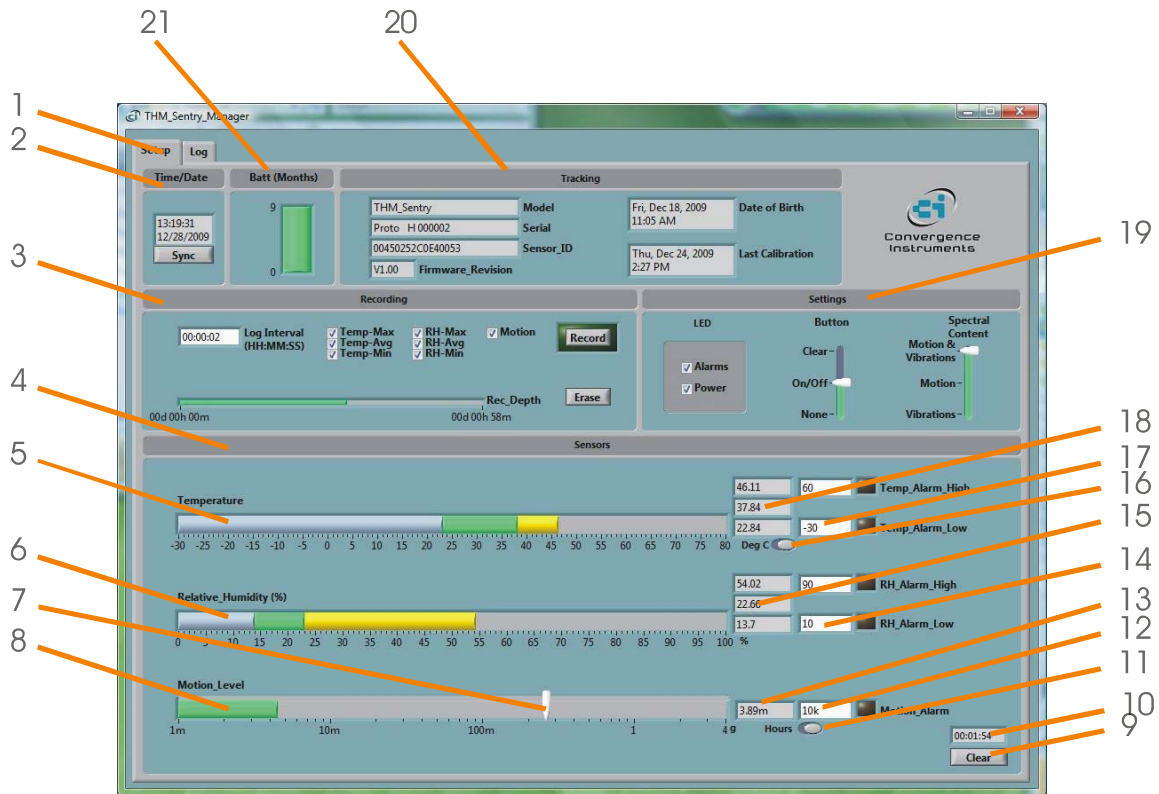

Figure 3: THM\_Sentry\_Manager Setup tab
4. The front-panel described in figure 3 appears, and the application tries to connect to the unit. If it fails to find the unit it indicates *No Device Found*. If this is the case see the *Troubleshooting* section. Otherwise the application immediately starts communicating with the *THM Sentry*.
- **The Setup Tab:** Is used to setup the instrument and read current levels and ongoing statistics (see figure 3).
The setup tab is seen in figure 3. The setup tab is divided into six fields.